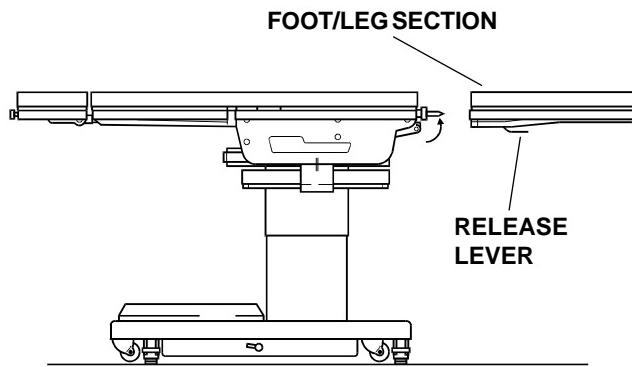

Figure 3-19. Leg Section Release Levers
a. To remove the leg section, position the table top height to elbow height, and simultaneously depress both release levers and pull the leg section out. See figure 3-19. Press the LEG-DOWN button on the pendant control to position the leg section attachment pins down and out of the way.